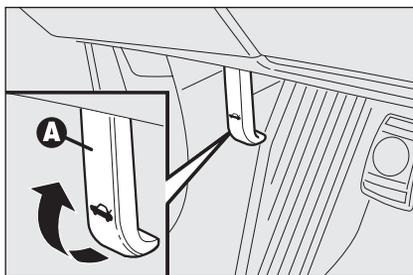

fig. 98
- pull lever **A-fig. 98** until hearing the releasing click;